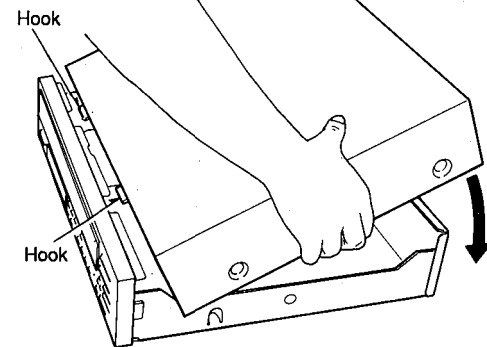

Fig. 5
a. Fit the hooks of the Top Cover (at its front) between the front panel and sub-panel as shown in Fig. 5.
b. Pull the bottom edges of the Top Cover toward outside with both hands and lower it as shown in Fig. 5.